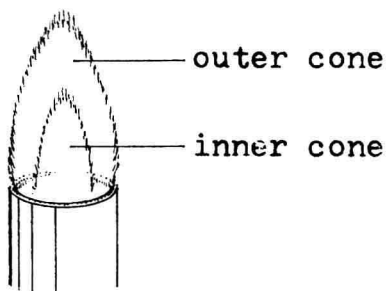

Figure 1-2
F. Close the air inlet adjustment and place a square wire gauze held by a pair of forceps in the region above the inner cone as shown in Figure 1-2. Now open the air inlet adjustment as much as possible without having the flame blow out. Place the wire gauze above the inner cone again. Record your observations describing the color of the cones and relative temperatures.